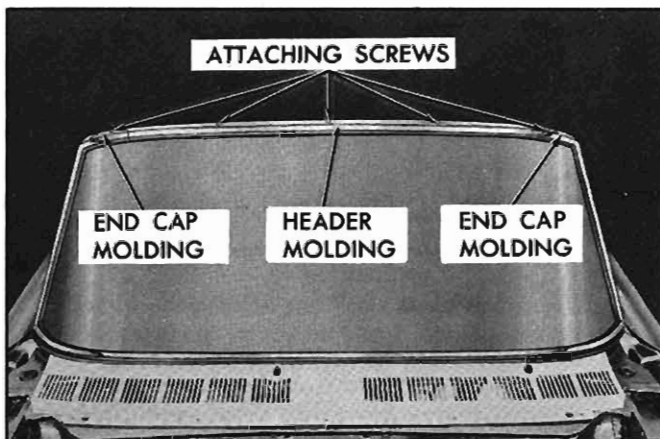

Fig. 31—Windshield Header Assembly
The upper header moldings consist of right and left ends and a center molding. The moldings are secured to the windshield header by screws. The header moldings are installed before the windshield assembly, but may be removed without removing the windshield (fig. 31).
8. To install, apply a $\frac{3}{16}$ " bead of medium-bodied sealer the entire length of the windshield header before installing the center header molding. Apply additional sealer to underside of each end molding to insure a watertight seal to the junction of the center molding (fig. 31). Clean off excess sealer and reverse removal procedure for all other moldings.